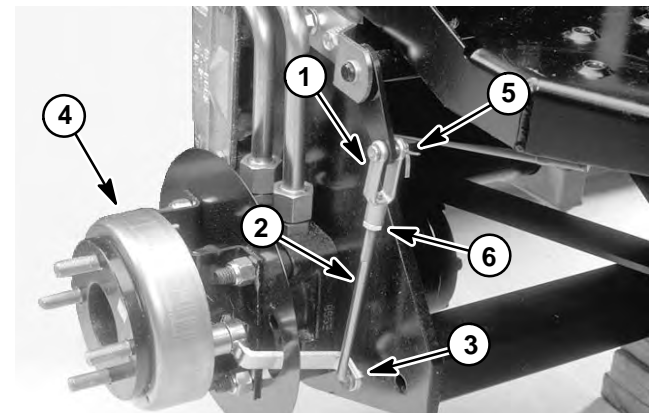

Figure 3
B. Adjust brakes by turning clevis to increase or decrease shoe pressure on the brake drum (Fig. 3). Make sure that brake shoes do not drag against drums with the parking brake lever released.